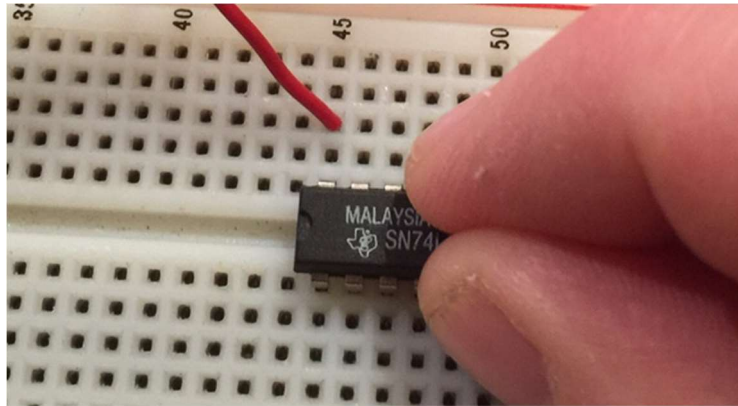

Figure 11: Removing an IC Chip by Rocking Gently on the Long Sides
- c. **Remove** circuit wires and gently rock the chip using your thumb and fore-finger on the long-sides of the chip. **See** Figure 11 for an example of removing a chip.